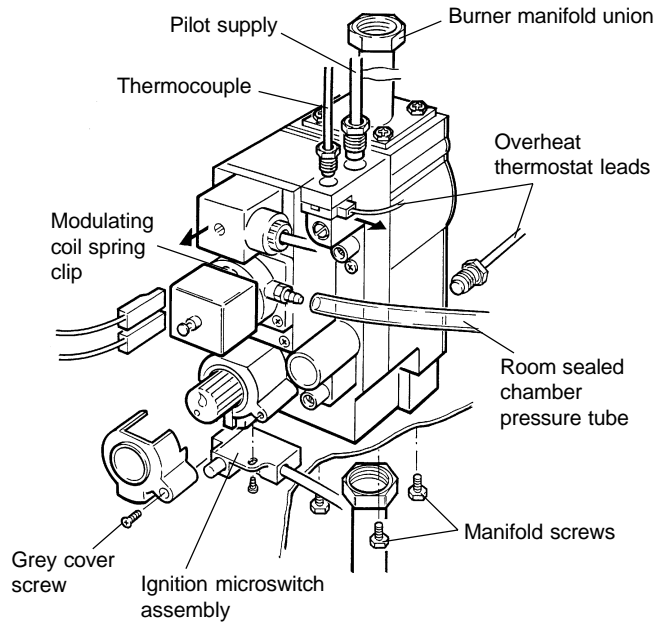

Fig. 24
8.12 GAS VALVE (Alpha 240P and 280P only) - Fig. 24
8.14 GAS VALVE MODULATING COIL - Refer to Fig. 24 or 25